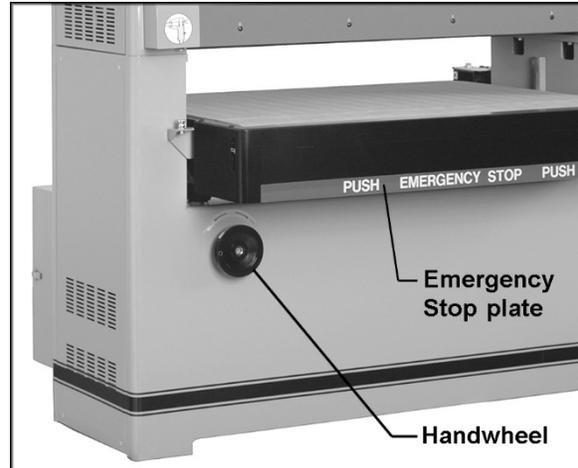

Figure 16
4. Raise the table manually using the handwheel (Figure 16) until the panel contacts the pressure bars.
The emergency stop cover has a plate (shown in Figure 16) which shuts down all machine operations when it is pushed.